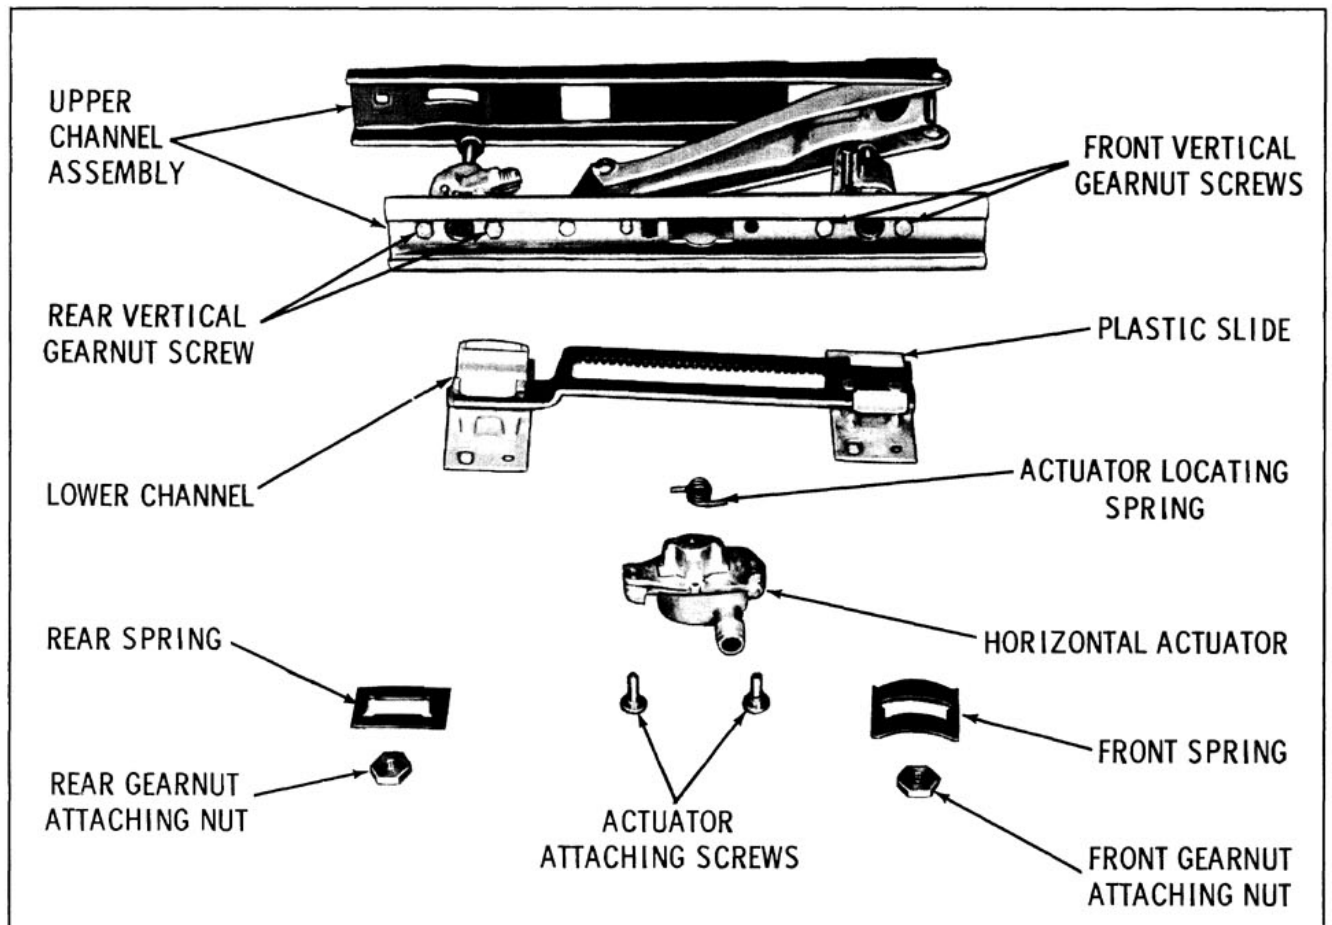

Fig. 16-98 Six-Way Seat Adjuster Components
Figure 16-98 identifies the components of the six-way seat adjuster. The following service procedures include replacement of all major component parts of this adjuster.
3. If lower channel is being replaced with a new part, transfer plastic slides to new part. (Fig. 16-98)
7. Lay adjuster on its side and remove front vertical gearnut attaching screws (Fig. 16-98); then remove gearnut from adjuster.
7. Lay adjuster on its side and remove rear vertical gearnut attaching screws; then remove gearnut from adjuster. (Fig. 16-98)
6. Transfer front and rear gearnuts to new upper channel. (Fig. 16-98)